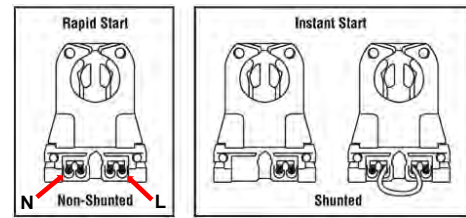

Figure 1.
6. Ensure that the fixture contains non-shunted G13 bi-pin lamp holders (**Figure 1**). If socket lamp holders are internally shunted, then replace with new non-shunted socket lamp holders. If socket lamp holders are shunted with a jumper wire, remove wire to convert into non-shunted sockets.